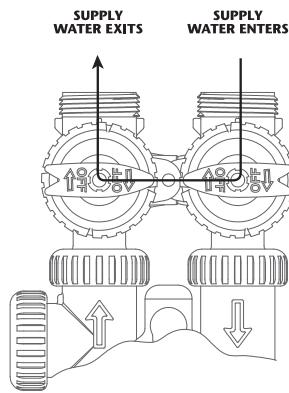

Figure 2
- BYPASS POSITION:** The inlet and outlet handles point to the center of the bypass. The system is isolated from the water pressure in the plumbing system. Untreated water is supplied to the building (**Fig. 2**).
- After installation is complete, rotate bypass handles to bypass mode (**see Fig. 2 on page 4**).